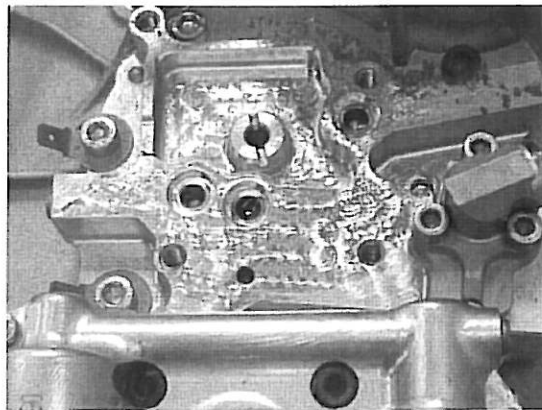

Figure 5
1. *Clean the ground plate with the help of paper towel(s). See Figure 5.*